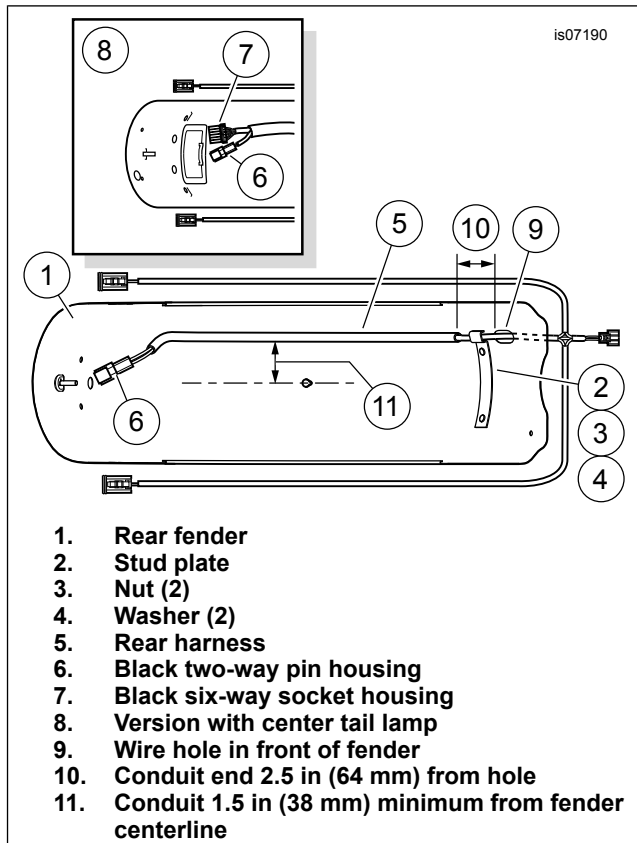

Figure 2. Install Rear Fender Harness
1. See Figure 2. Clean the fender (1) underside along the harness mounting path as shown with a mixture of 50 percent isopropyl alcohol and 50 percent distilled water. Allow to dry completely. Do not use solvents or harsh chemicals that damage painted surfaces.